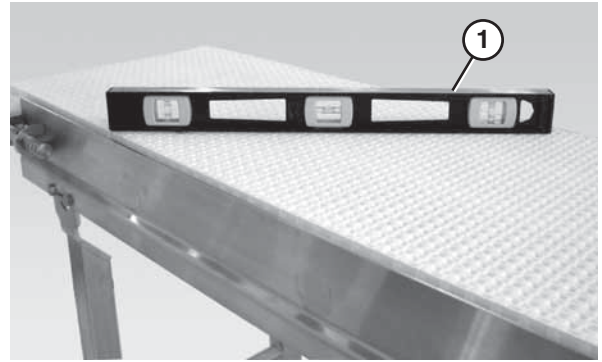

Figure 18
4. Use a level (Figure 18, item 1) to verify that both stand legs are the same height.